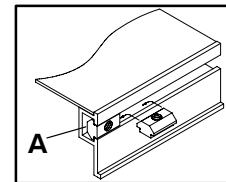

Figure 2
1. Insert two Single Drop-in T-bars (A of Figure 2) into conveyor T-slot.